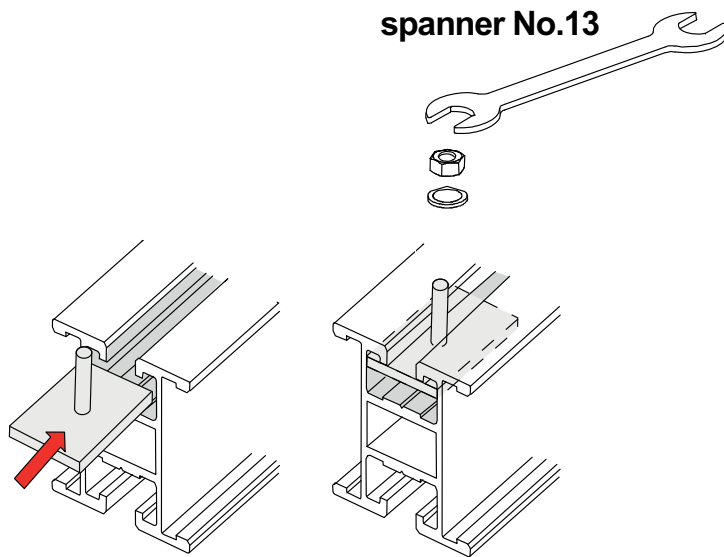

Fig. 18: Assembly by means of the travelling screws with a special head
- screw the triangular support to the rail with travelling screws with specially shaped head, serrated lock washers and nuts. Secure the travelling screws inside the rail by 90° turn (see Fig. 18).
- insert M8 nuts (23) into the rail (04). Install the strut between the two triangular supports (Fig. 18). Following Fig. 18, insert special M8 nuts into the triangle support rail. Then lay the strut onto the rails and fix it with M8x12 bolts with washers.